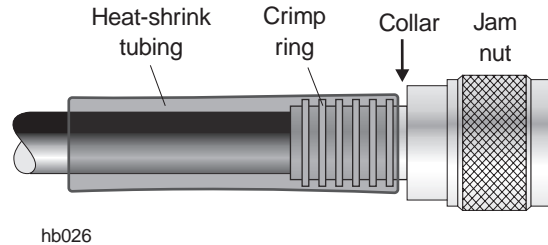

Figure C-12 Heat-shrink tubing, properly placed for shrinking
1. Position the heat-shrink tubing near (but not touching) the jam nut, so it covers the crimp ring and a portion of the connector collar, as shown in figure C-12.